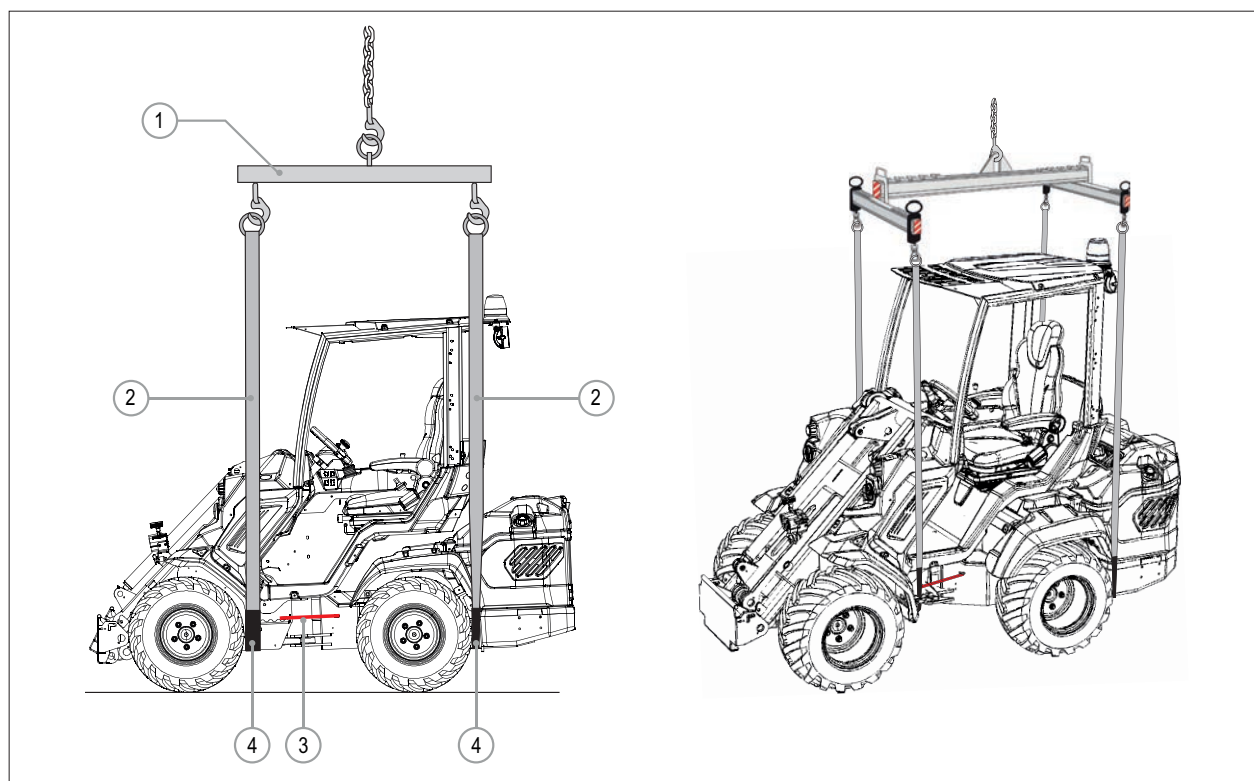

FIG. 24
- 2) Insert the steering lock bracket (**FIG. 24 - Rif. 3**) (**see par. 11.7**).
- 3) Use a lifting beam (**FIG. 24 - Rif. 1**) of adequate capacity and in accordance with the use.
- 4) Pass the lifting straps (**FIG. 24 - Rif. 2**) under the machine as shown in figure. Use sling antislip protector sleeves (**FIG. 24 - Rif. 4**) to avoid damages to the straps. Don't use the tie-down points of the machine to fix the straps. To prevent machine damage when lifting, make sure that the lifting straps don't touch the machine sides in any point.